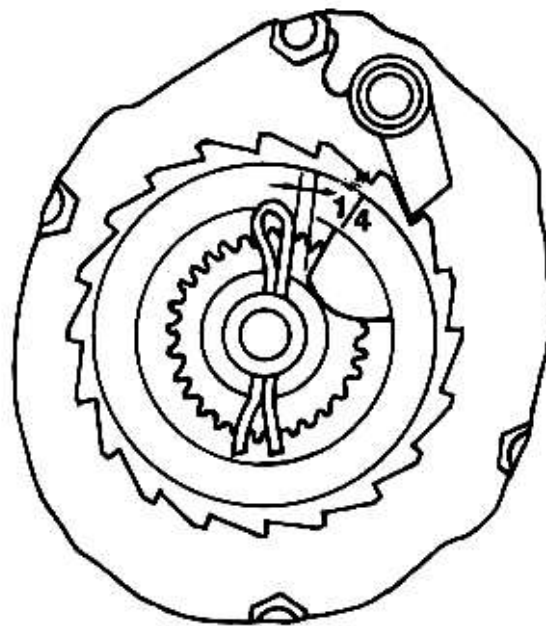

FIG. 2
3. Remove cotter pin and unscrew (counter clockwise) the handwheel from spindle. See Fig. 2 Page 8 for reassembly adjustment.